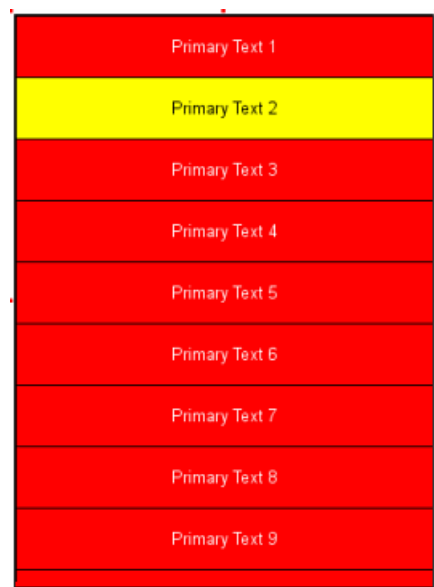

FIG. 138 TPDesign5 - Listview button
2. In the *General* tab of the Properties window, select **Listview** as the *Type* (FIG. 138):